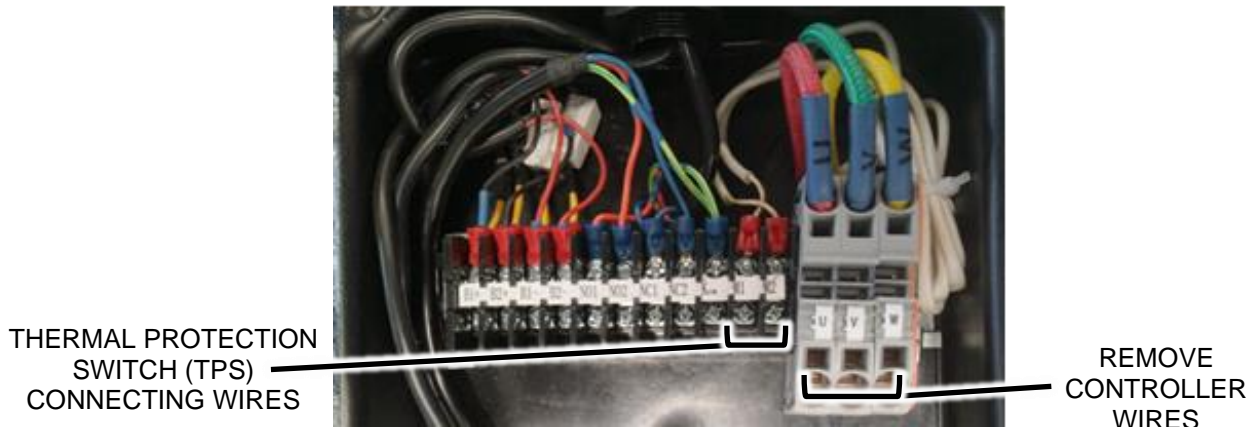

Figure 29
2. Disconnect machine power, see Figure 29.